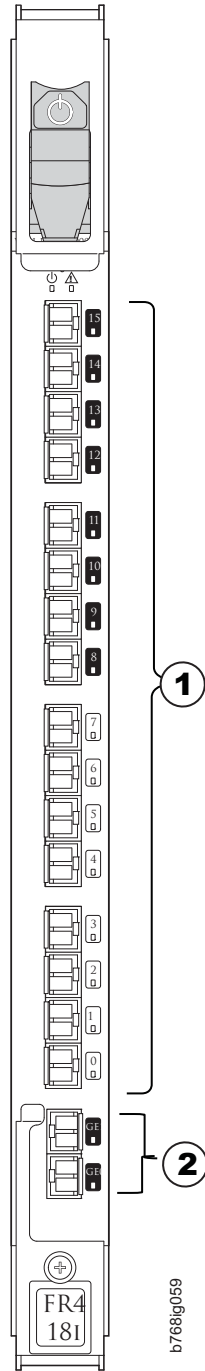

Figure 58. FR4-18i routing blade
- Figure 58 on page 159 shows an FR4-18i routing blade